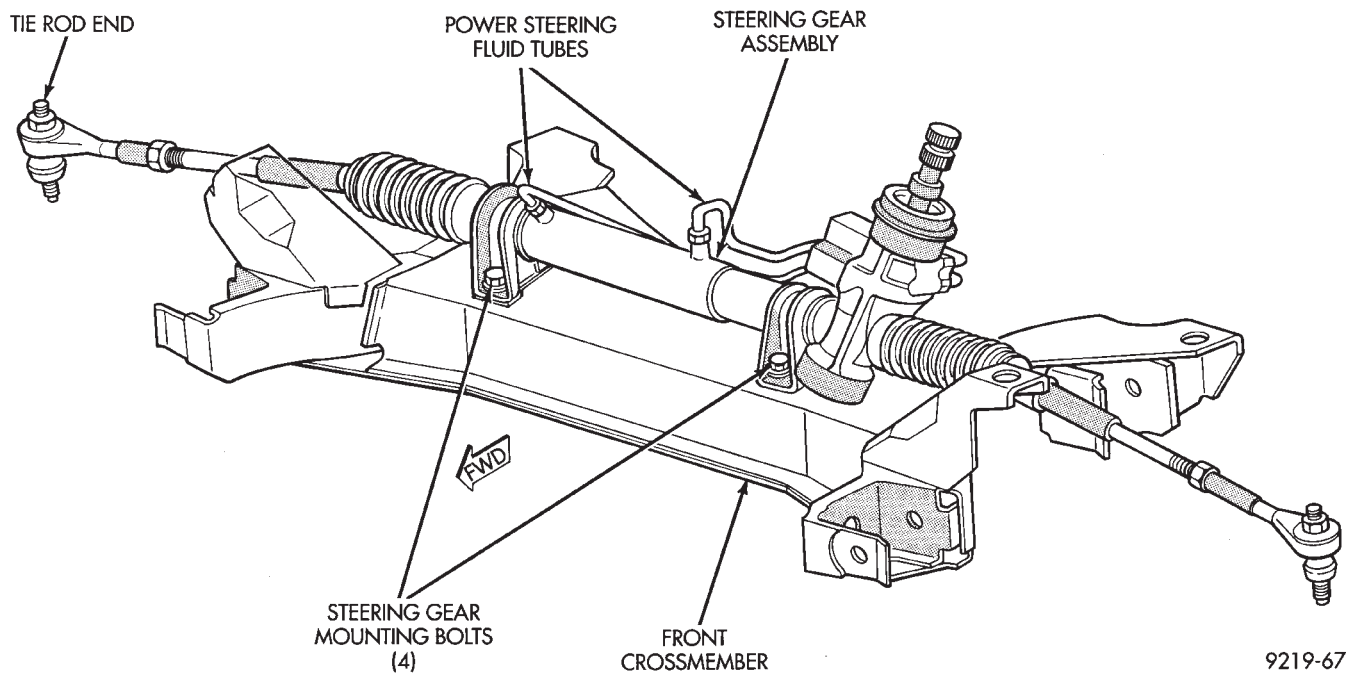

Fig. 3 Steering Gear And Crossmember
(6) Remove fluid tubes (Fig. 3) from the power steering pump to the steering gear. See hose removal procedure.
(7) Remove the 4 bolts (Fig. 3) attaching steering gear to front suspension crossmember.
(8) Remove steering gear assembly from crossmember.
(1) Install steering gear assembly on the front crossmember. Install the 4 steering gear to front crossmember mounting bolts (Fig. 3).
(2) Using a transmission jack raise the front crossmember and steering gear against the frame rails. Install the 3 crossmember to frame rail attaching
(3) Torque the 4 bolts (Fig. 3) attaching the steering gear assembly to front crossmember, to 68 N•m (50 ft. lbs.). **To ensure proper alignment of the steering gear tighten left front bolt first.**
(4) Attach the engine damper strut from the engine to the crossmember (if so equipped).
(5) Attach the fluid tubes (Fig. 3) from the power steering pump to the fittings on the steering gear. Torque the fluid pressure line to steering gear tube nut to 31 N•m (275 in. lbs.).
(6) Mount the outer tie rod ends to the steering knuckles. Install the tie rod end to steering knuckle attaching nuts. Torque the tie rod end to steering knuckle nuts to 52 N•m (38 ft. lbs.). Install cotter pin in tie rod end.
(7) Install the front tire and wheel assemblies on vehicle. Install the wheel lug nuts and torque to 129 N•m (95 ft. lbs.).
(8) Lower vehicle.